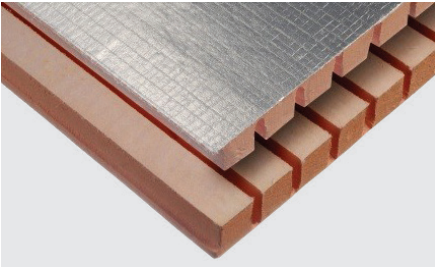

Figure 18: Slotted insulation boards
- Kingspan Insulation can offer rigid insulation boards slotted on the internal face (See Figure 18 below). This slotted insulation can be applied to duct diameters of 350 mm and larger.